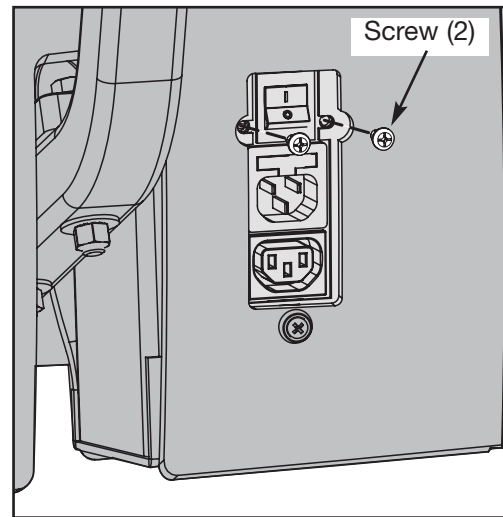

Figure 18
- Using a Phillips head screwdriver, remove the two screws on each side of the power switch. See Figure 18.
A. Place the new power switch assembly into position. See Figure 18.
B. Using a Phillips head screwdriver, attach the two screws removed during step 3A into the power switch. See Figure 18.
B. Turn the main power switch to the on (I) position.